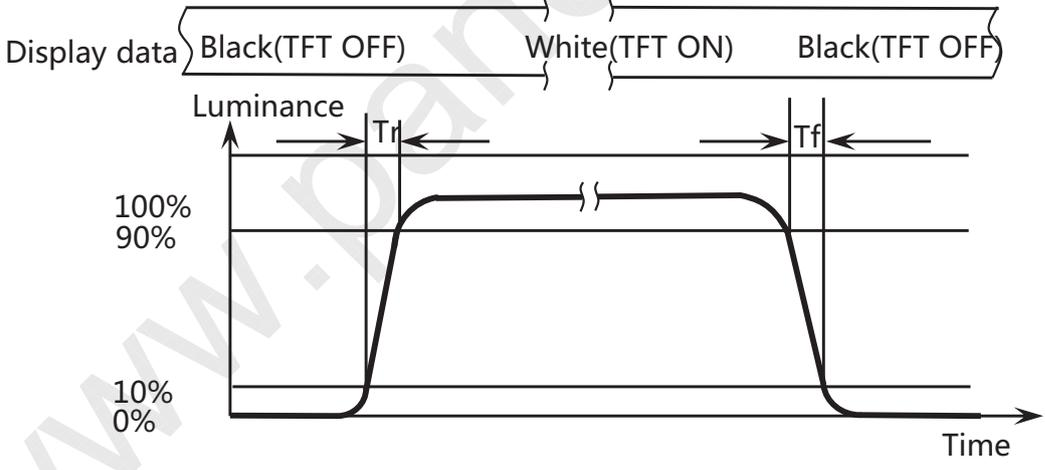

Figure 10. Response Time Testing
- The electro-optical response time measurements shall be made as Figure 10 by switching the "data" input signal ON and OFF. The times needed for the luminance to change from 10% to 90% is  $T_r$ , and 90% to 10% is  $T_f$ .
The electro-optical response time measurements shall be made as shown in Figure 10 by switching the “data” input signal ON and OFF. Tr: The luminance to change from 10% to 90% ,Tf: The luminance to change from 90% to 10% .